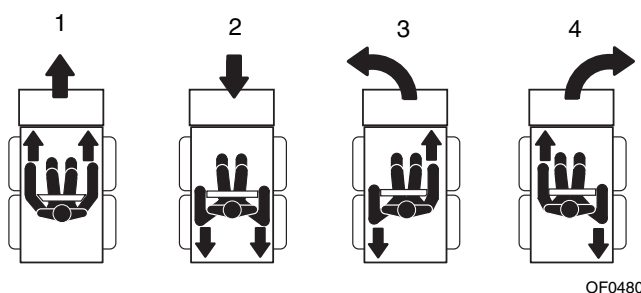

Figure 7-1 Travel Controls
To travel forward (Fig. 7-1, 1), both levers must move forward. To travel in reverse (2), both levers must move backward.
To turn left (Fig. 7-1, 3), the left lever goes back while the right lever goes forward. To turn right (4), the right lever goes back while the left lever goes forward.